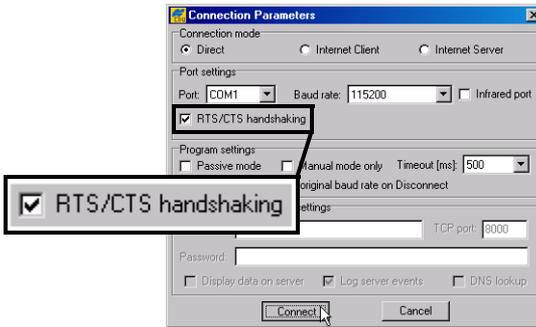

Figure 5-9. Connection Parameters – RTS/CTS Handshaking
3. On the *Connection Parameters* dialog box, enable *RTS/CTS handshaking*, and click **Connect** (Figure 5-9).